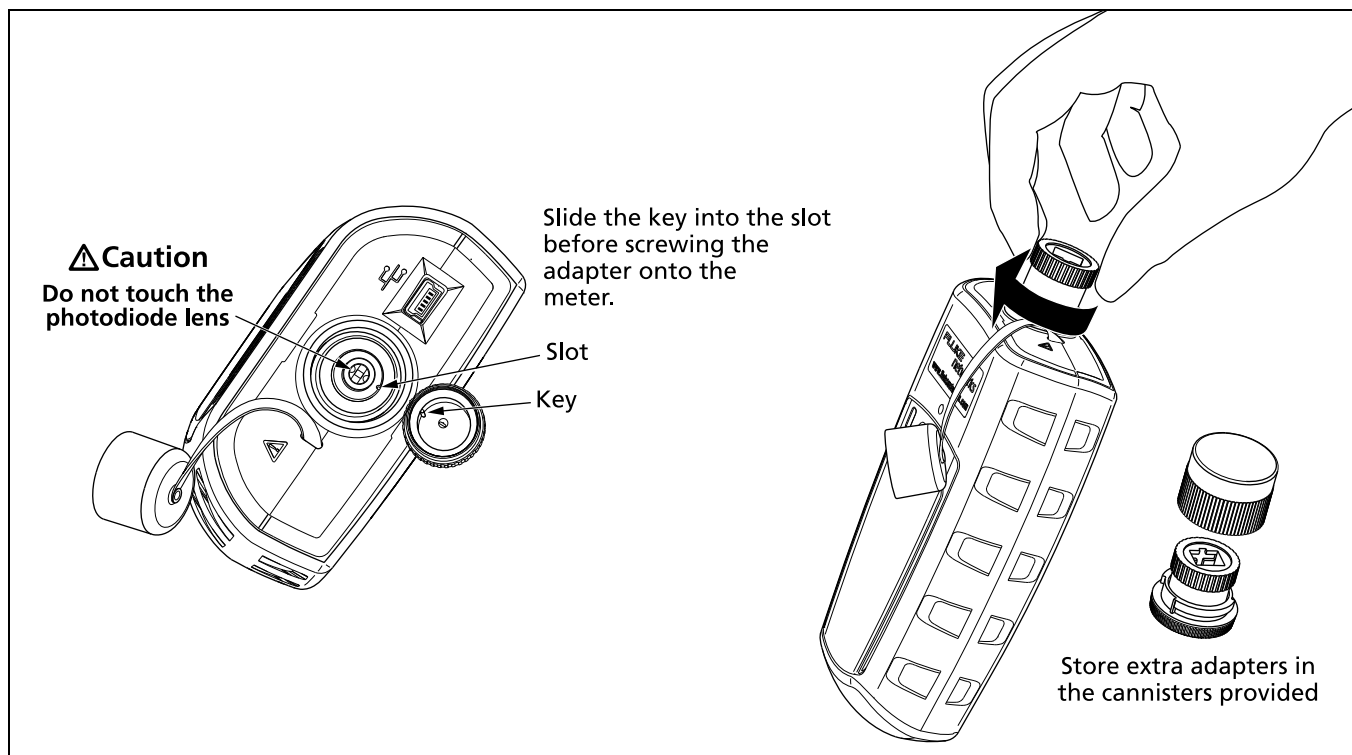

Figure 4. Installing the Connector Adapter
- **Do not touch the photodiode lens (see Figure 4).**
To install a connector adapter, refer to Figure 4 and do the following: